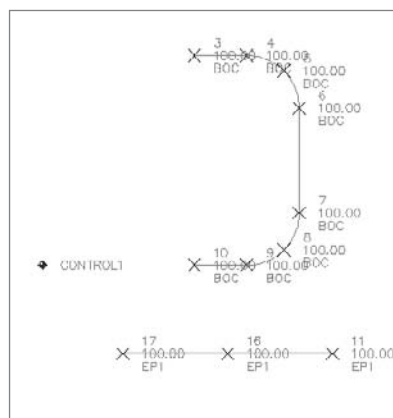

Figure A.13
9. Use the Object Style drop-down list to change the object style from Basic to Clean. Click OK to dismiss the dialog. The survey figure lines will turn off and the screen will appear as shown in Figure A.13.